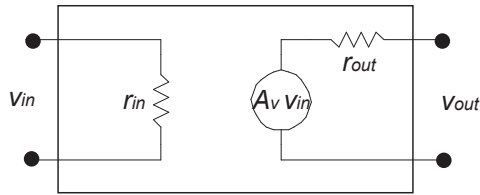

Figure 2: Thevenin Equivalent Circuit for an Amplifier.
6. **AC properties.** Three important parameters, defined by the coupled Thevenin equivalent circuits of the amplifier input and output shown in Fig. 2, determine the AC behavior of the amplifier. They are: